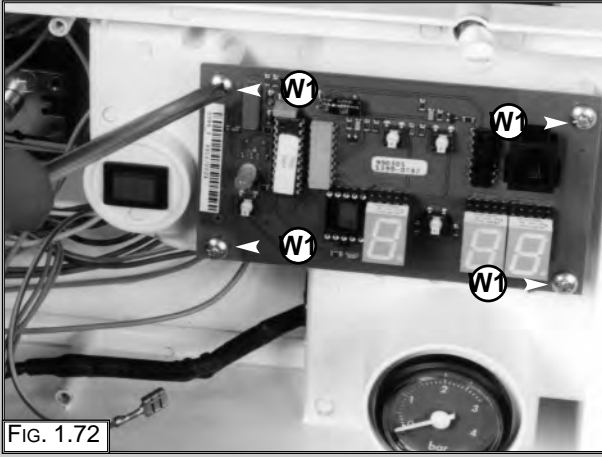

FIG. 1.72
9. Remove the display P.C.B. mounting screws "W1" (FIG. 1.72);